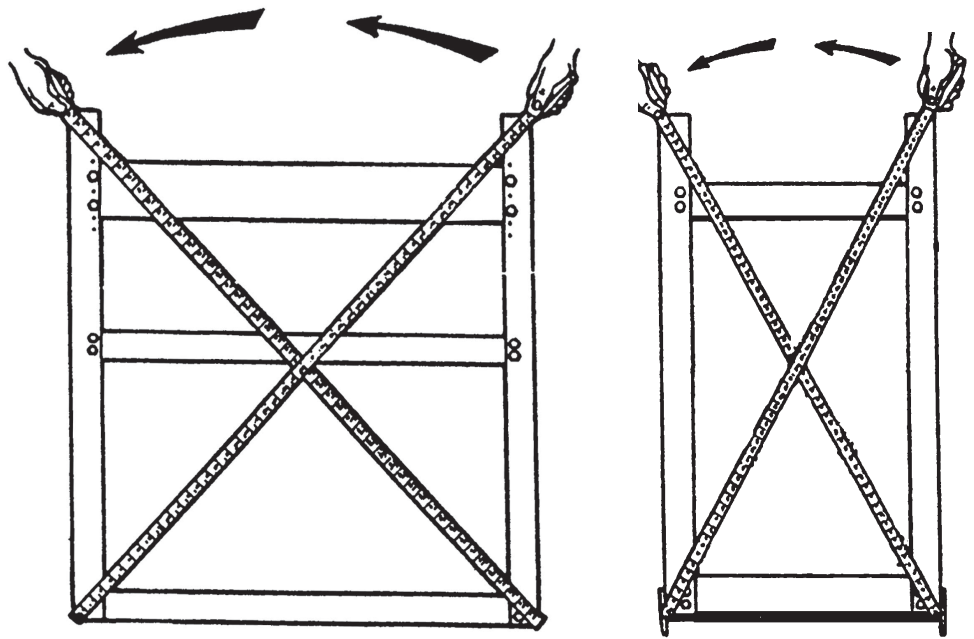

FIG. 4
- B. Measure diagonally both ways on front of unit. Shift frame until measurements are equal. Then tighten middle and bottom nuts. (Fig. 4)